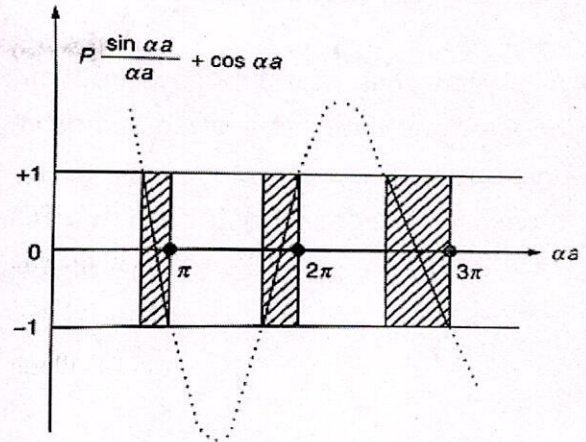

Fig.2
- (ii). As the value of ' αa ' increases the width of the allowed ENERGY band increases and width of the forbidden band decreases as shown in fig. 2.